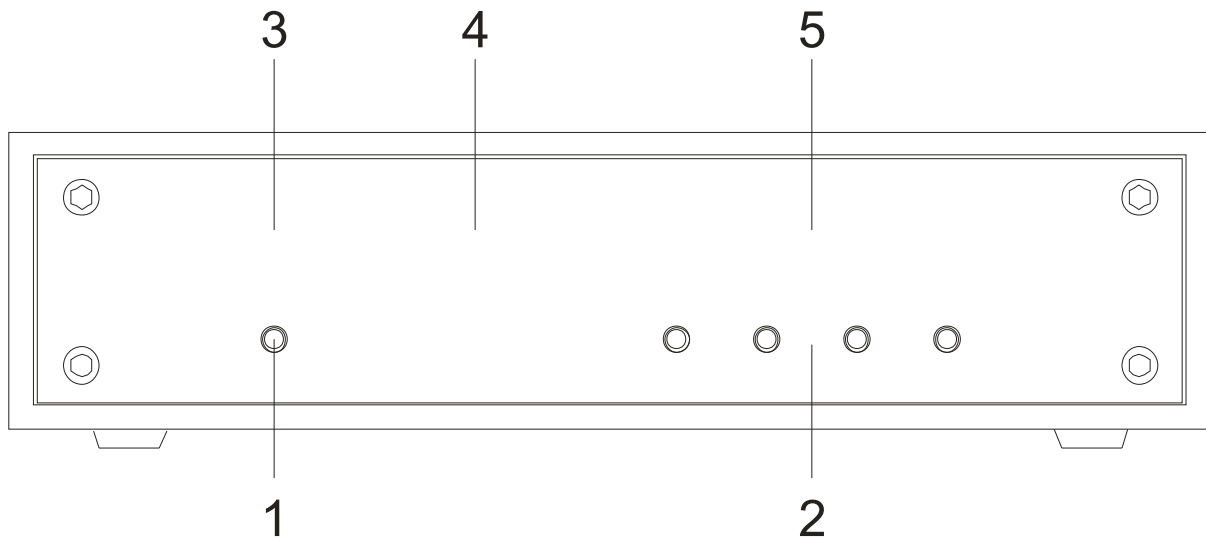
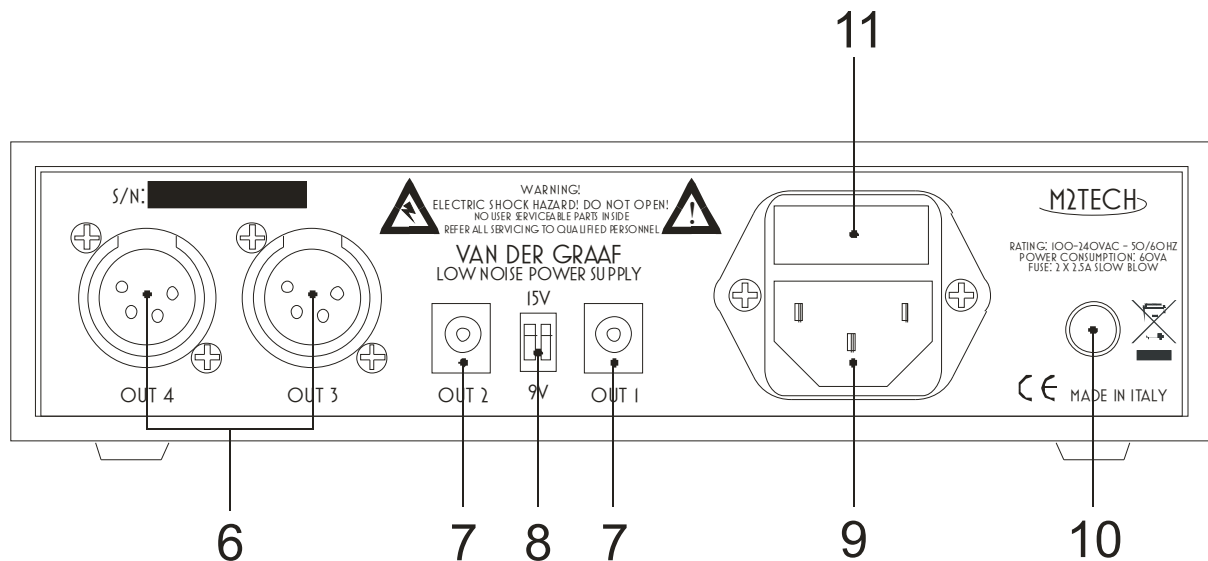

Figure 1
Figure 2
**1) Global enable button.** Push this button to activate the VAN DER GRAAF when it's in standby (LED 4 on and LED 3 off). Following the operation of this button, all outputs previously enabled by the user with their buttons (item 2, Fig. 1) will activate, in the same sequence as the user manually activated them, with 1 second intervals. The related LED's will turn on to indicate activation. During the process, LED 3 blinks. At the end of activation process, LED 3 glows steadily. When the VAN DER GRAAF is active, user may put the VAN DER GRAAF in standby, disabling the outputs in reverse
**10) Power switch.** Push this switch to toggle VAN DER GRAAF power. When powering the unit, LED 4 (Fig. 1, Pag. 11) will glow and the VAN DER GRAAF will enter standby.
Connect one or two units with +15V or +9V single supply input to VAN DER GRAAF output 1 and 2 (Fig. 2, 7), using the stock cable, after selecting the right output voltage for each powered unit. For example, when powering a YOUNG DSD with output 1, the voltage selector closest to the output socket (Fig. 2, 8) must be set to the upper position. On the other hand, when output 2 is used to power a HIFACE EVO, then the voltage selector closet to it must be set to the lower position.
Connect one or two units with composite supply input (+5V/+15V/-15V) to VAN DER GRAAF output 3 and 4 (Fig. 2, 6), using the stock cables. One such unit is, for example the MARLEY.
Connect the stock power cord to VAN DER GRAAF power socket(Fig. 2, 9) and to a wall outlet.
Push the power switch on the back panel (Fig. 2, 10) to turn the VAN DER GRAAF on. The power LED on the front panel (Fig. 1, 4) will glow. The VAN DER GRAAF will enter standby, waiting for enabling by the user.
Push the global enable button (Fig. 1, 1). At first enable, this action will have no effect on outputs. At following enables, if the user has previously enabled one or more outputs, they will activate in the same order as the user manually enabled them..
When the VAN DER GRAAF is in standby (only LED 4 on), it is possible to activate it pushing the global enable button (Fig. 1, 1). Immediately after this button operation, the global enable LED (Fig. 1, 3) starts blinking and the previously enabled outputs are activated in the order chosen by the user, at one second intervals. At the end of the activation process, the active outputs are indicated by the related LED, which is on, and the global enable LED glows steadily.
**NOTE: the outputs activation sequence is stored by the VAN DER GRAAF when it enters standby. If the power switch (Fig. 2, 10) is used to shut down the VAN DER GRAAF, then the sequence, even if changed from the previous standby, is not stored and the VAN DER GRAAF will use the last stored sequence upon following activation, not the latest one.**